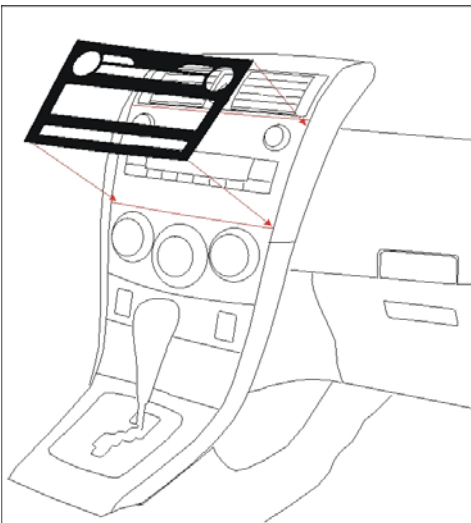

Fig. 4-1
- (b) Align part uniformly to the Radio edge and audio button. (Fig. 4-1)